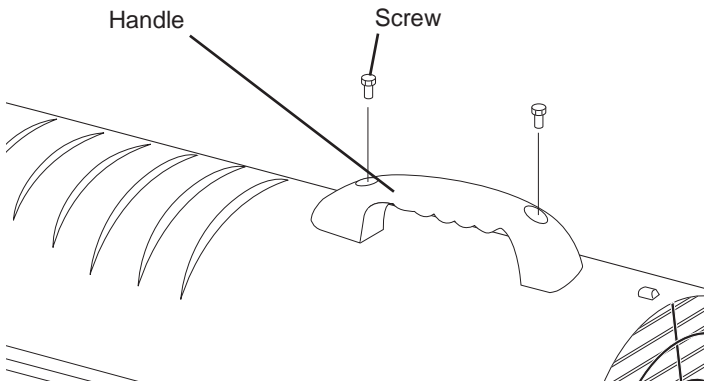

Figure 6. Handle Mounting, Models MH-45/75T-KFA
1. Align the holes in the upper housing with the 2 holes in the handle as shown in **Figure 6**.